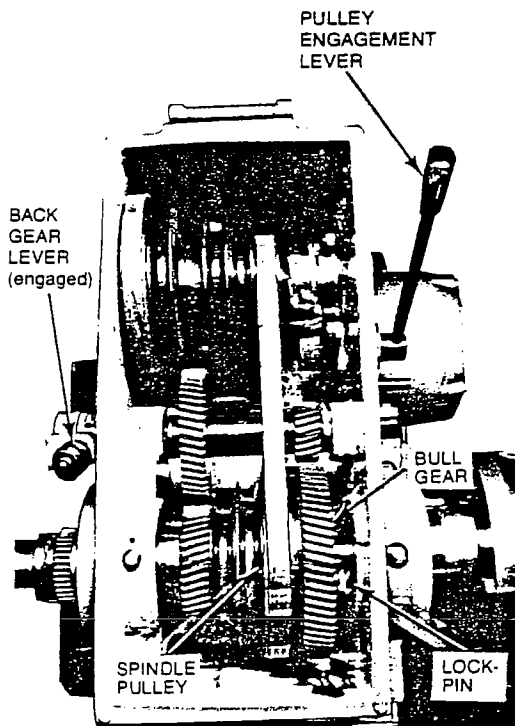

FIGURE 17
3. Pull out lockpin and turn it 90 degrees. This disengages bull gear from spindle pulley (Figure 17).